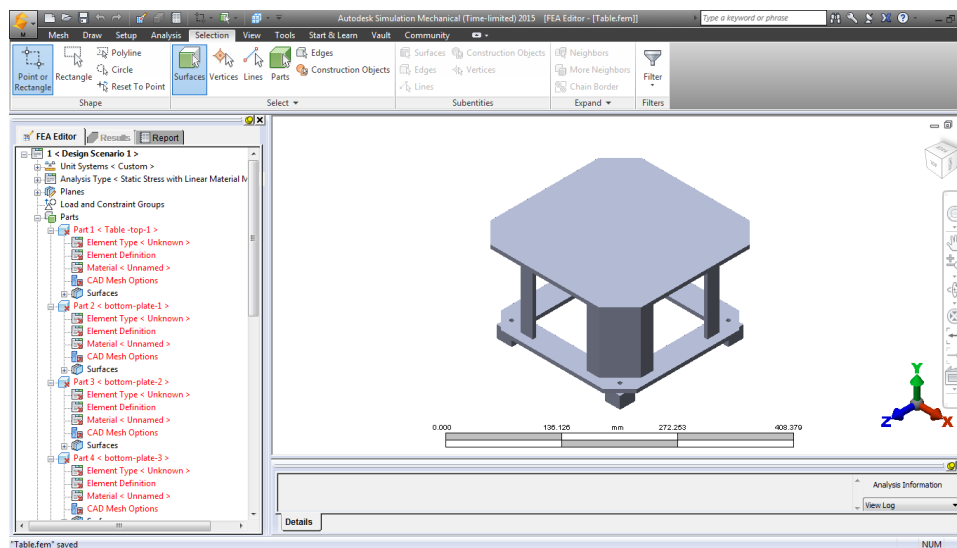

Figure 3-40 SolidWorks assembly imported into Autodesk Simulation Mechanical
6. Accept the default selection and choose the **OK** button from the dialog box; the SolidWorks assembly file is opened into the Autodesk Simulation Mechanical, as shown in Figure 3-40.